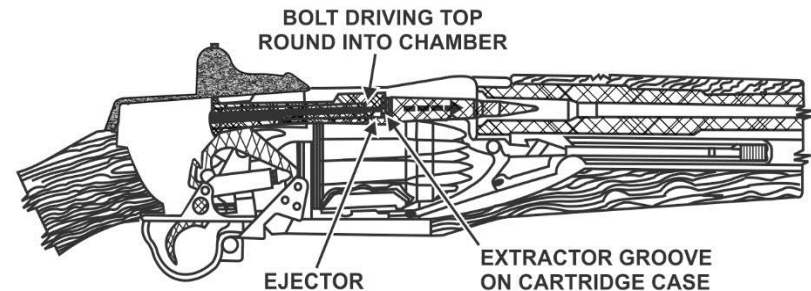

Figure 59. Chambering
- 2) **Chambering.** Chambering occurs when a round is moved into the chamber. This takes place as the bolt goes forward under force from the operating rod spring, picking up the top round in the clip and driving it forward into the chamber. Chambering is complete when the extractor snaps into the extracting groove on the cartridge case and the ejector is forced into the face of the bolt (fig 59).